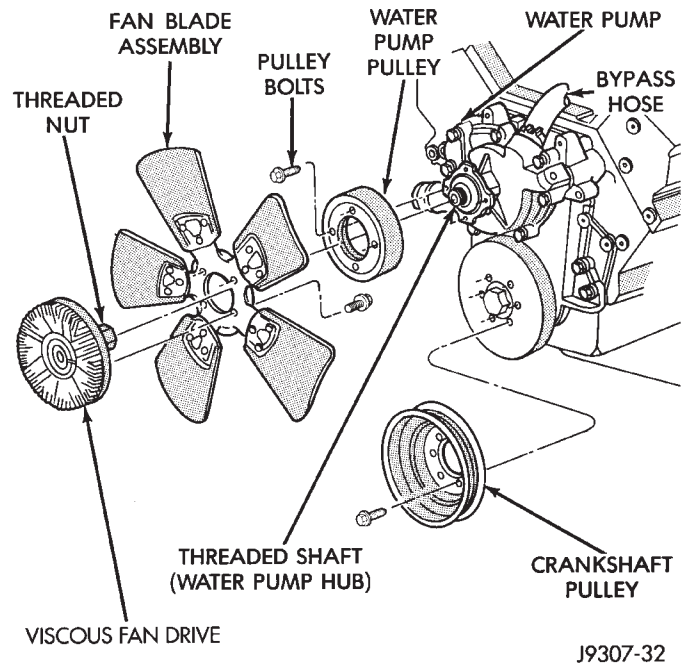
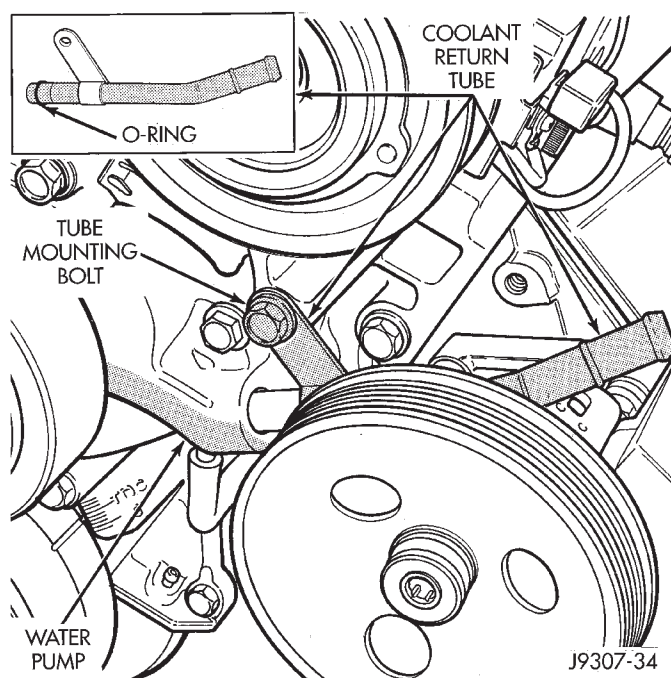
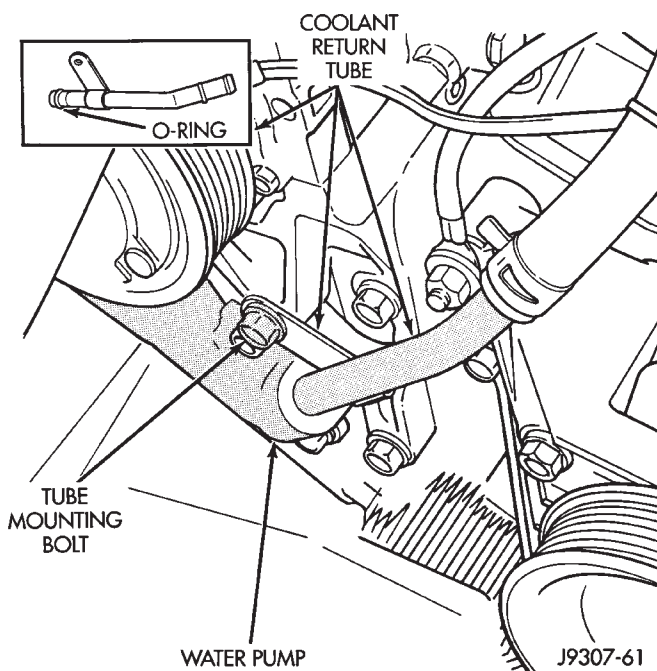

Fig. 39 Fan Blade and Viscous Fan Drive—Typical
Fig. 42 Coolant Return Tube—3.9L V-6 or 5.2/5.9L V-8 LDC-Gas Engines
Fig. 43 Coolant Return Tube—5.9L HDC-Gas Engine
(6) Remove upper radiator hose at radiator.
(7) The thermal viscous fan drive is attached (threaded) to the water pump hub shaft (Fig. 39). Remove the fan/fan drive assembly from water pump by turning the mounting nut counterclockwise (as viewed from front). Threads on the fan drive are **RIGHT-HAND**. A Snap-On 36 MM Fan Wrench (number SP346 from Snap-On Cummins Diesel Tool Set number 2017DSP) can be used. Place a bar or screwdriver between the water pump pulley bolts (Fig. 39) to prevent the pulley from rotating.
(8) If water pump is being replaced, do not unbolt fan blade assembly (Fig. 39) from the thermal control fan drive.
(9) Remove fan blade/fan drive and fan shroud as an assembly from vehicle.
(10) After removing fan blade/fan drive assembly, **do not** place the thermal viscous fan drive in the
(15) Remove the four water pump pulley-to-water pump hub bolts (Fig. 39) and remove pulley from vehicle.
(16) Remove the lower radiator hose and heater hose from water pump.
(17) Loosen heater hose coolant return tube mounting bolt (Fig. 42) (Fig. 43) and remove tube from water pump. Discard the old tube O-ring.
(19) Loosen the clamp at the water pump end of bypass hose (Fig. 39). Slip the bypass hose from the water pump while removing pump from vehicle. Do not remove the clamp from the bypass hose.
(20) Discard old gasket.
- (3) Position bypass hose clamp to bypass hose.
- (4) Spin water pump to be sure that pump impeller does not rub against timing chain case/cover.
- (5) Install a new o-ring to the heater hose coolant return tube (Fig. 42) (Fig. 43). Coat the new o-ring with antifreeze before installation.
(6) Install coolant return tube and its mounting bolt to engine (Fig. 42) (Fig. 43). Be sure the slot in tube bracket is bottomed to mounting bolt. This will properly position return tube.
(7) Connect radiator lower hose to water pump.
(8) Connect heater hose and hose clamp to coolant return tube.
(9) Install water pump pulley. Tighten bolts to 27 N·m (20 ft. lbs.) torque. Place a bar or screwdriver between water pump pulley bolts (Fig. 39) to prevent pulley from rotating.